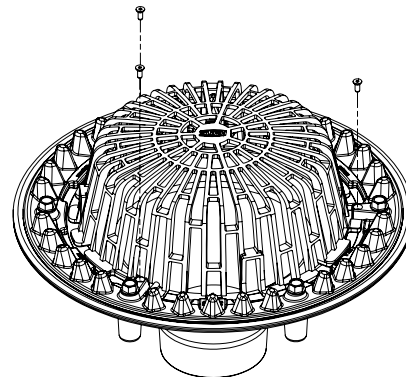

Figure 3
5. Using a pin-in-hex driver bit, thread each screw into the clamping collar until the screws bottom out and lock the dome in place (Fig 3).